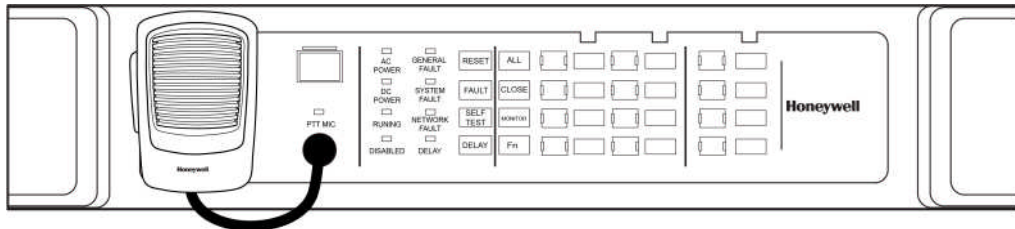

Figure 7 PTT Microphone Installation Diagram
1. Connect and hang the emergency microphone in place on the front panel of the DCS. An installed emergency microphone is shown in Figure 7.